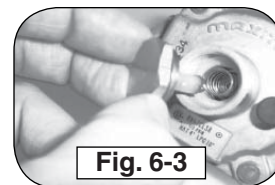

Fig. 6-3
2. Remove the converter (the plastic stalk) by carefully pulling it away from the center of the cap (it will snap out of its seating); see Fig. 6-3.